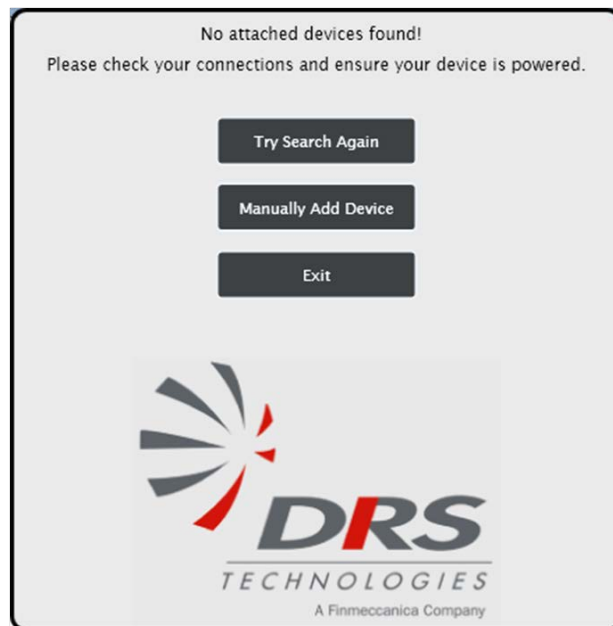
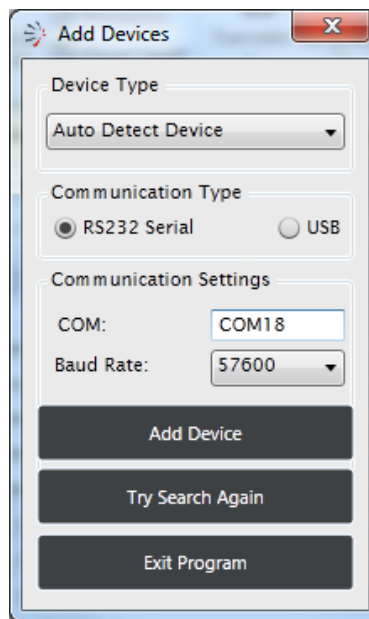

Figure 57. No Attached Devices Found
Figure 61 Add Device
If the DRS Camera Control Software does not detect a camera, the “*No attached devices found!*” window appears - see Figure 57. Symptoms and solutions for remedying this issue are outlined below.
- ☐ If connecting via USB cable, when the Camera Control Software displays the menu shown in Figure 57, select “Try Search Again”. Sometimes the camera itself is not fully initialized when the Camera Control Software is first run.
- If Figure 57 is displayed, the user can manually connect to the camera by selecting "Manually Add Device". The user will then see the window show in Figure 61.